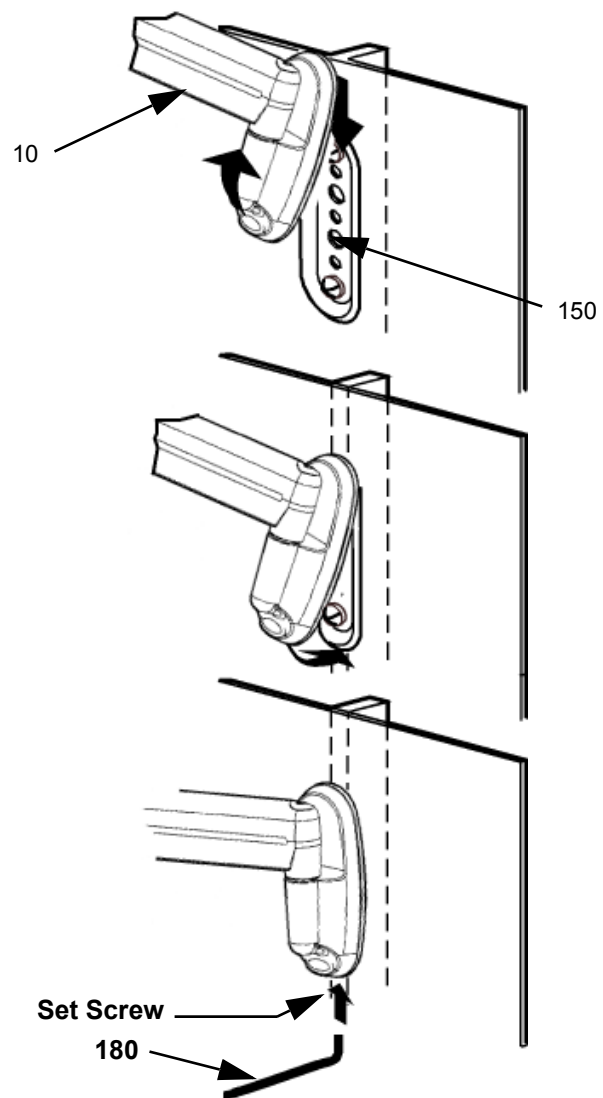

Figure 3: Attach Mount to Wall Bracket
1. Align the top of the mount (10) with the top of the wall bracket (150). Push the bottom of the mount against the bottom of the wall bracket until the mount fits snugly in place (see Figure 3).
2. Using the 5/32" hex wrench (180), secure the mount to the wall bracket by tightening the set screw (see figure 3). Ensure set screw engages *back* side of bracket to properly secure mount.